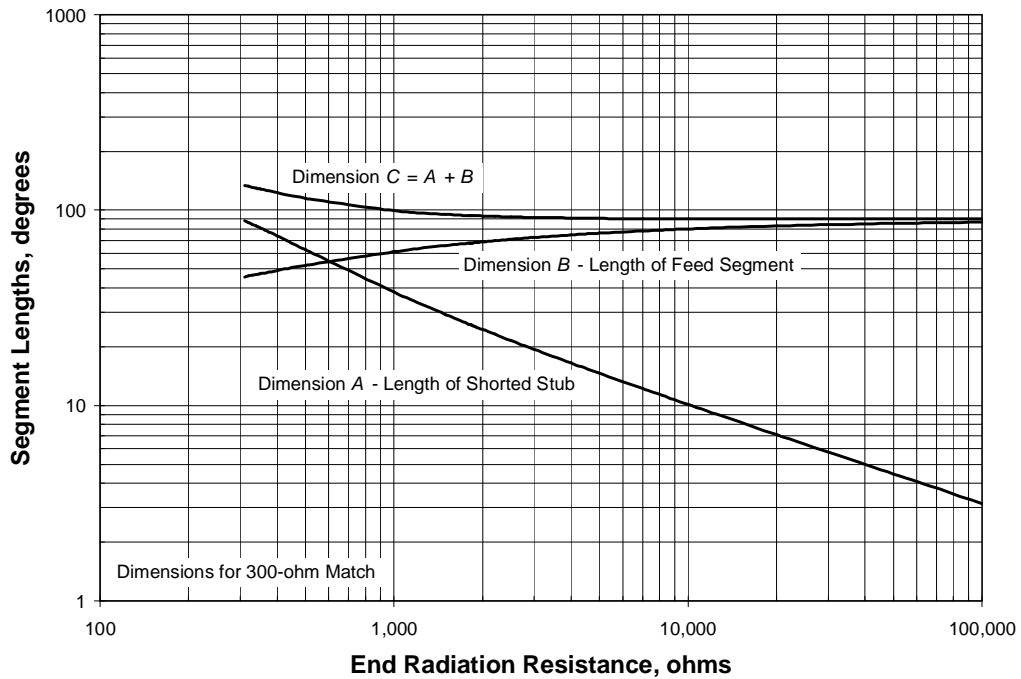

Figure 1. Optimum J-pole matching section for match to 300 Ω.
**Figure 1** gives the optimum lengths for both transmission line sections in electrical degrees. Dimension  $A$  designates the length of the shorted shunt stub, and  $B$  designates the length of the line feeding the radiator. Notice that the sum of lengths  $A + B$  is not always 90 degrees, thus disproving a myth about tuning J-poles. For our radiator's resistance of 3,470 ohms, the optimum lengths are